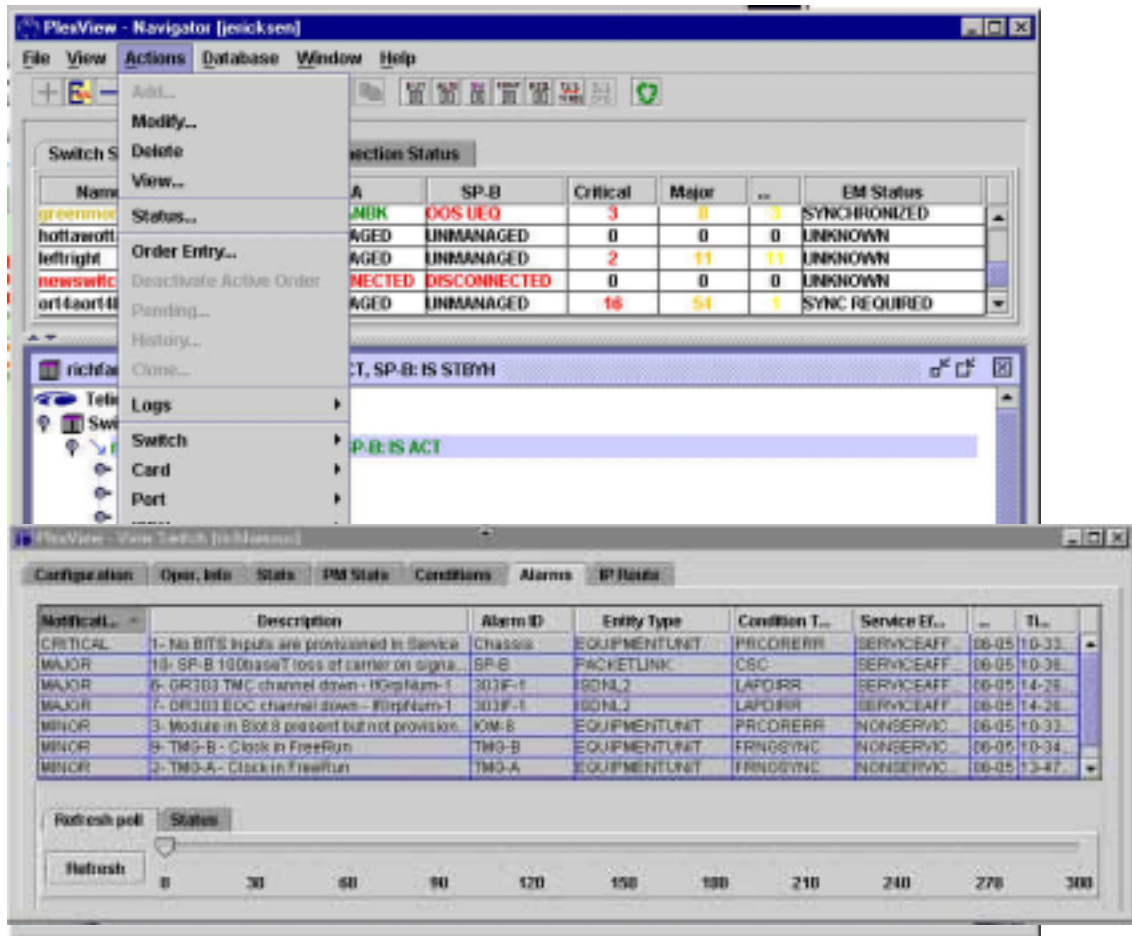

Figure 1. Retrieving Alarms
14. In the toolbar, select *Actions*, then *View* and then *Alarms*. Refer to Figure 1.